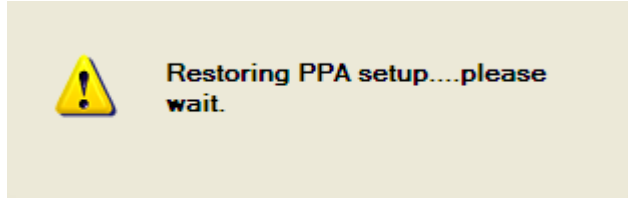

Figure 2-105 Restoring PPA setup notification dialog
- 2 When restoring the 8990B to its factory default settings, a notification dialog is displayed as shown in Figure 2-105.